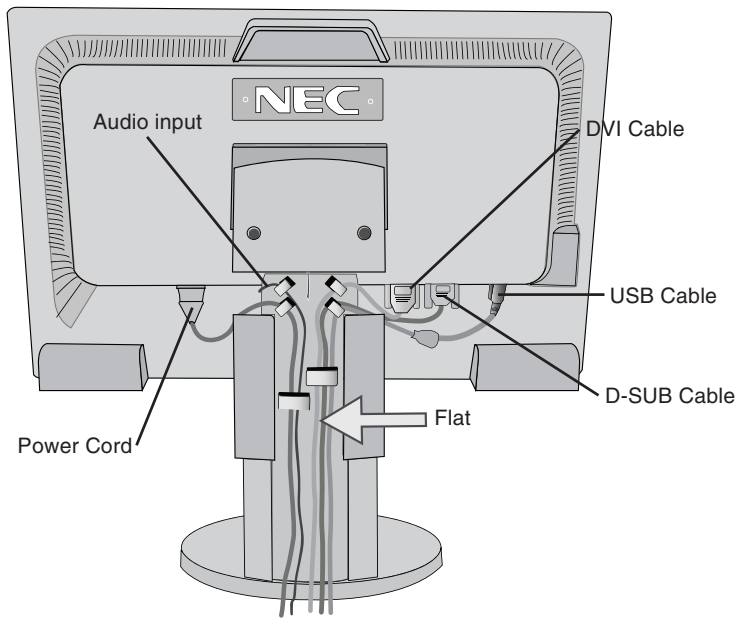
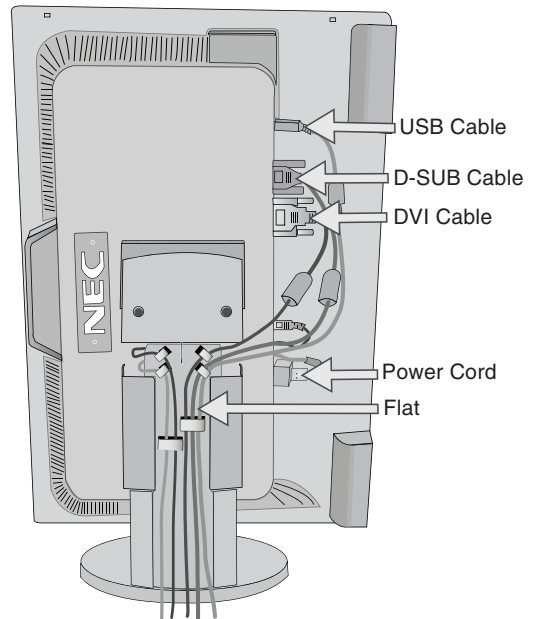

Figure C.2
Figure C.3
- 5. To keep the cables neatly organized, place them into the cable management system that is built into the stand. Place the Power cord and DVI cables into the specific hooks, as indicated in **Figure C.2/****Figure C.3**. Place the D-Sub and the USB cables into the specific hooks, as indicated in **Figure C.2/****Figure C.3**.
- 6. Make sure all cables are resting flat against the stand (**Figure C.2/****Figure C.3**). Please check Tilt, Rise and Lower monitor screen and screen rotation when you manage cables.